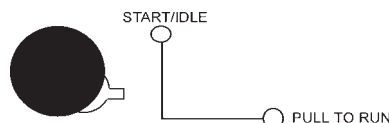

Figure 50. Engine Throttle Lever (high)
9. Let the engine warm up for a few minutes. Then pull and turn the throttle lever to the right to set the engine speed to 'high' (Figure 50).